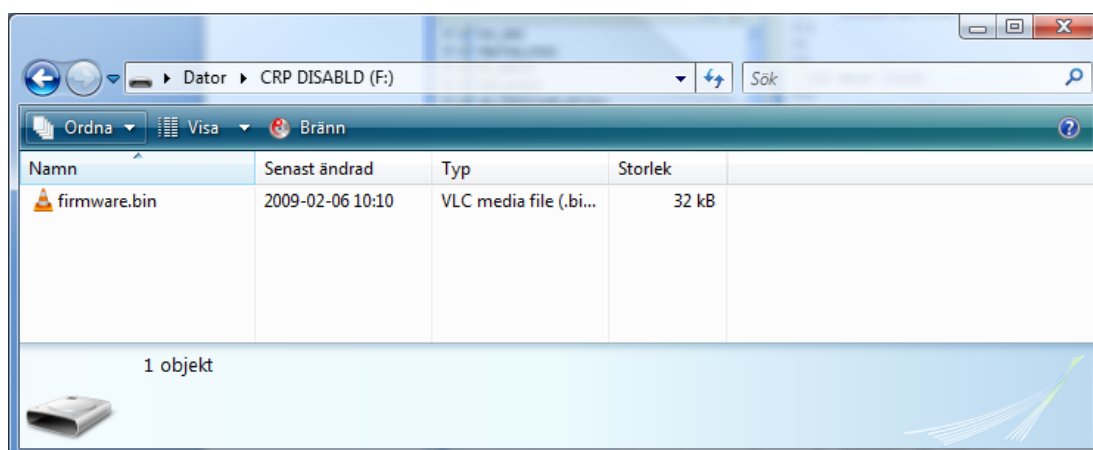

Figure 18 – Mass Storage Device
6. Hold down the SW3 button and then press and release the reset button on the LPCXpresso base board. A storage device named CRP DISABLD will now appear on your computer, see Figure 18.